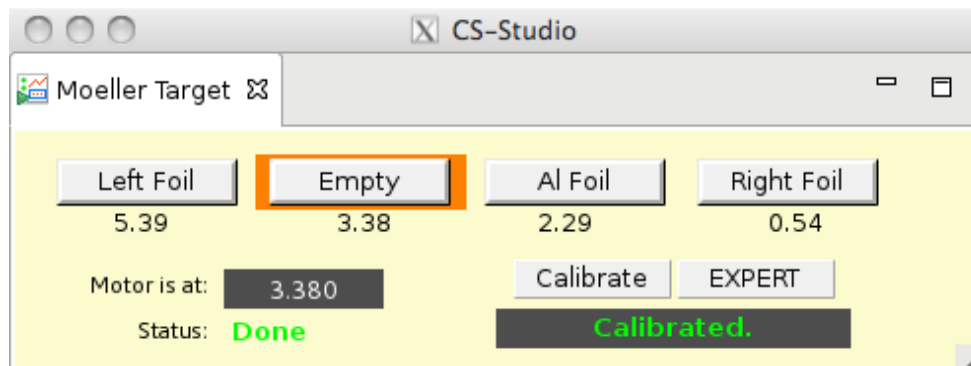

Figure 4: Control GUI for the Möller target.
- (d) a target control GUI, Fig.4, allows to position desired target on the beam. Left target is the recommended target for the measurements.